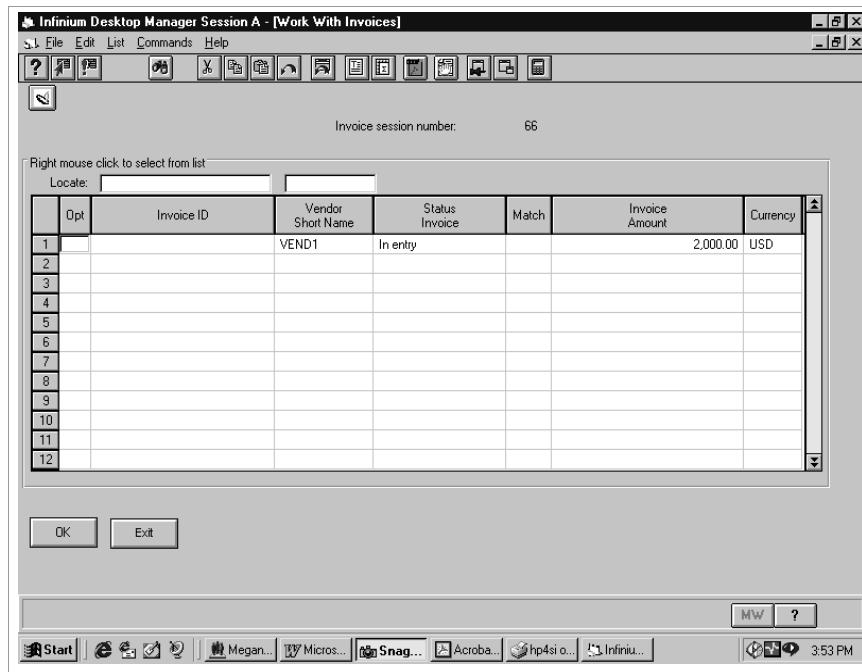

Figure 7-4: Work With Invoices screen
- 4 Select **Work with invoices** or type 5 and press Enter. The system displays the screen shown in Figure 7-4.